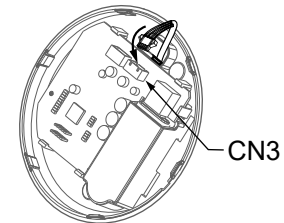

Figure 17.
- Use the CN40 loom to connect the wired controller to the CN3 terminal of the Smart Port. See Figure 17.